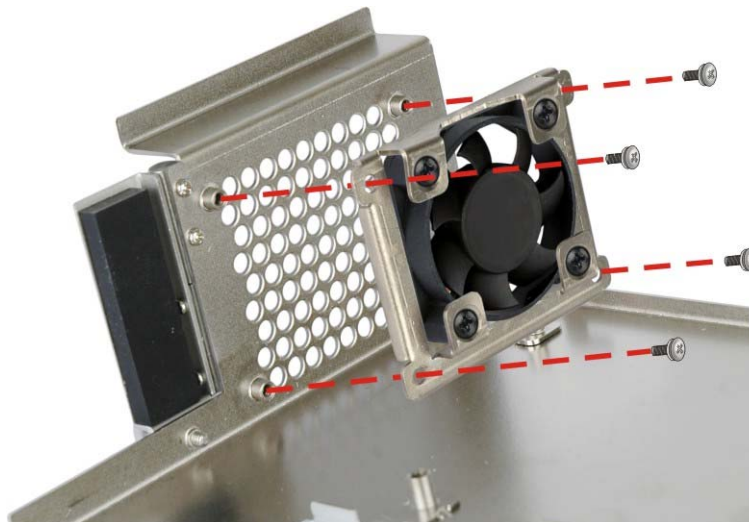

Figure 3-12: Reinstall the Fan Bracket
Step 7: Reinstall the fan bracket with the system fan installed (**Figure 3-12**).